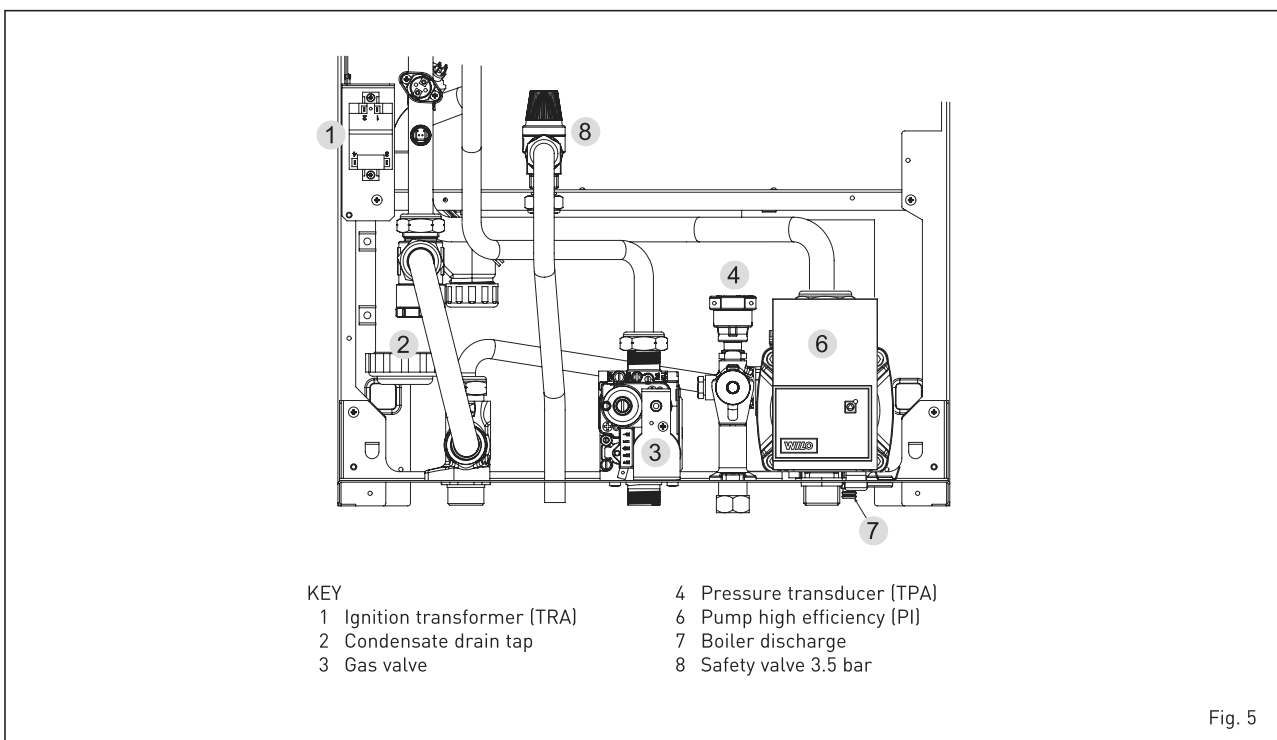

Fig. 5
2.3.1 System draining (fig. 5)